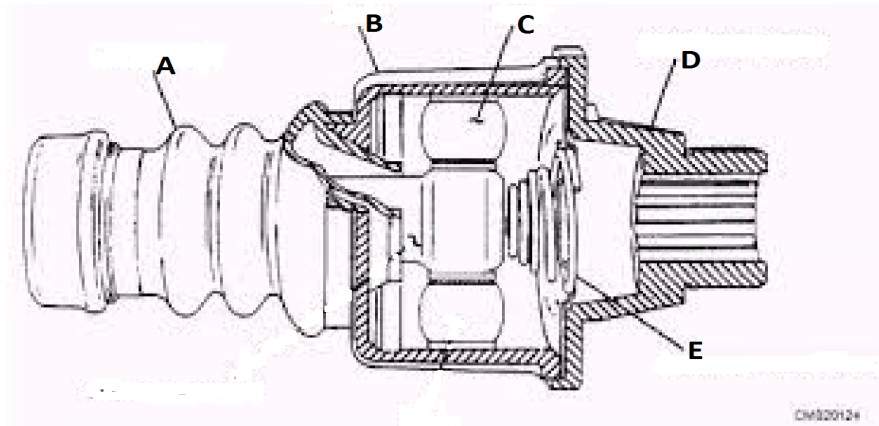

FIGURE 5
5.3 Identify the components of a constant velocity joint in FIGURE 5 below, by writing the answer next to the letter (A–E) in the ANSWER BOOK.